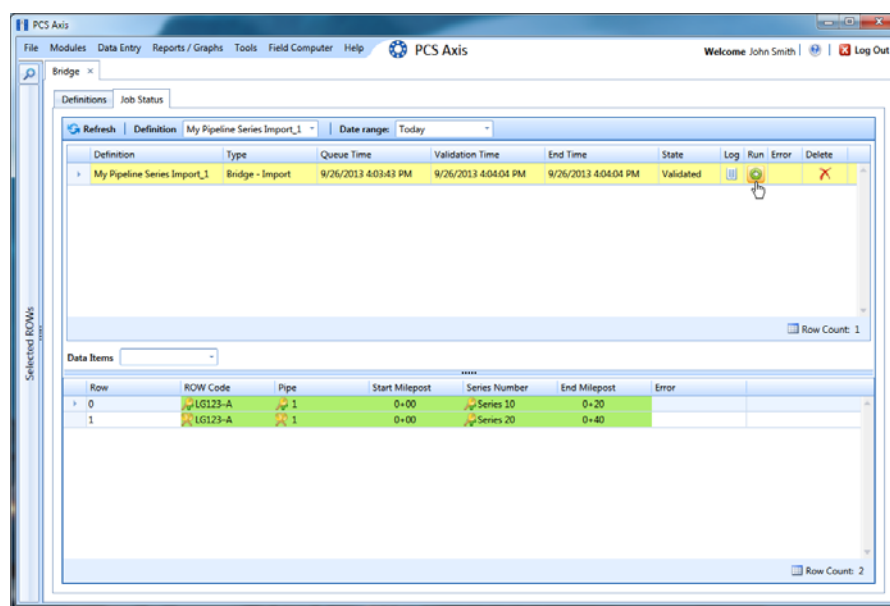

Figure 9-54. Job Status
- a If the *Job Status* window is open, click  **Run** for a selected import file listed in the *Job Status* window (Figure 9-54). Then click  **Refresh** to update status information.